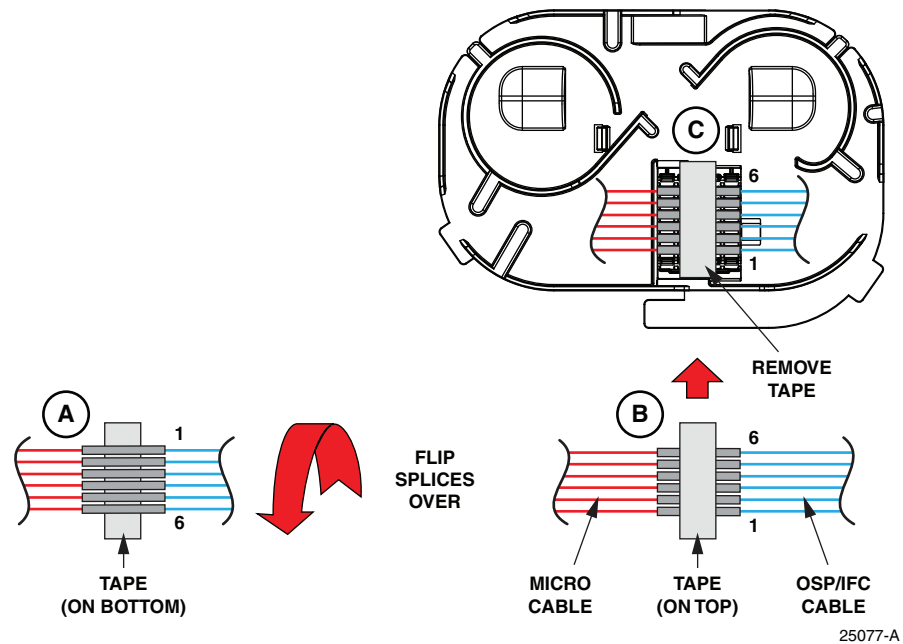

Figure 28. Using a Piece of Tape for a Mass Fusion Splice
1. Flip over the splice tray cover so that it is in the orientation shown in Figure 28.
2. Set up the splices in a work area below the cover, as shown in Figure 28, and complete the splice per local practice. For the type of splice to be used, refer to Table 2 on Page 15.
- b. If doing a mass fusion splice, use a piece of tape, as shown in Figure 28, to hold the splices in place so that they can be flipped over a half turn when placed in the splice chip. The reason for doing this is because the splice tray is subsequently flipped over in a reverse direction when placed in the splice tray base; the two twists cancel out one another, leaving the fibers untwisted. Flip the tape over 180 degrees, as shown, then remove the tape and place the splices in the splice chip.